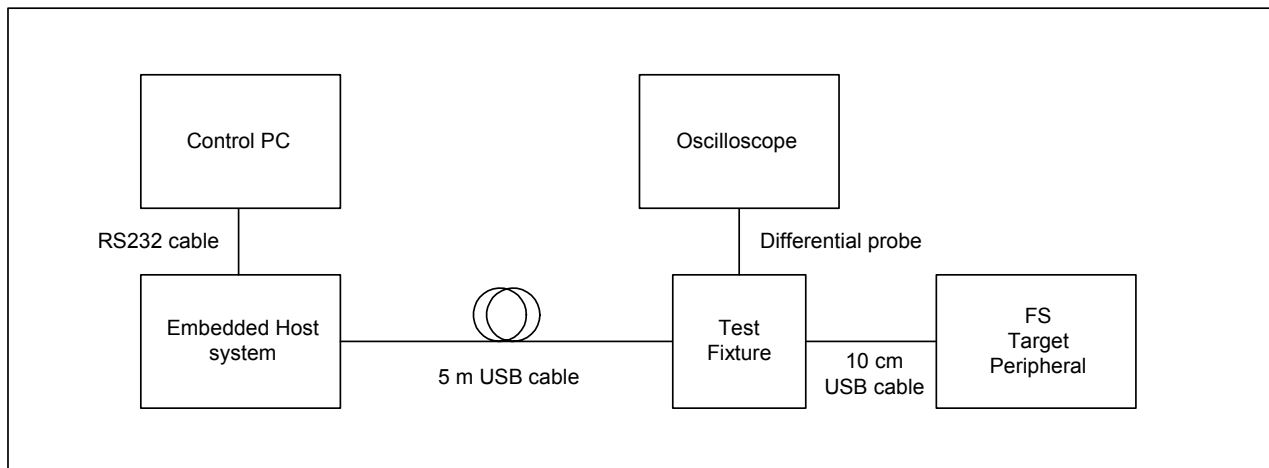

Figure 5-1 Full-speed downstream signal quality testing configuration
Measures the FS transmission wave eye pattern. This measurement is made if the system supports FS devices. Figure 5-1 shows the testing configuration.
1. Connect as shown in Figure 5-1.